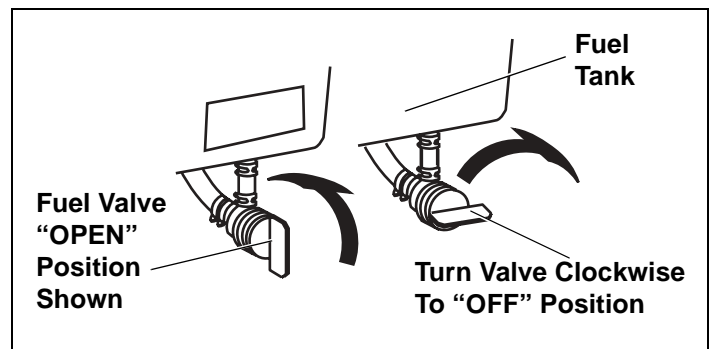

Figure 13. Fuel Valve Positions
6. Be sure fuel valve, if present (see equipment manufacturer's instructions) is open. See Figure 13 on page 6.
Some engines are equipped with an optional fuel valve. See Figure 13.